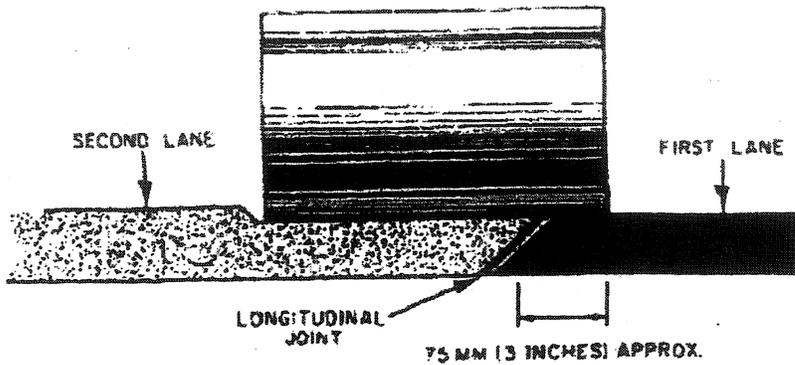

Figure 11-51.-Rolling a hot longitudinal joint.
**HOT JOINTS.**- A hot joint is a joint between two lanes of bituminous mix placed at approximately the same time by pavers working in echelon. This type of lay down produces the best longitudinal joint, because both lanes are at, or near, the same temperature when rolled. The material compacts into a single mass under the roller, resulting with little or no difference in density between the two lanes. When you are paving in echelon, the breakdown roller following the lead paver leaves a 3- to 6-inch unrolled edge that the second paver and roller should stay as close as possible to the first paver to ensure a uniform density is obtained across the joint. The roller following the second paver compacts the hot joint on its first pass (fig. 11-51).